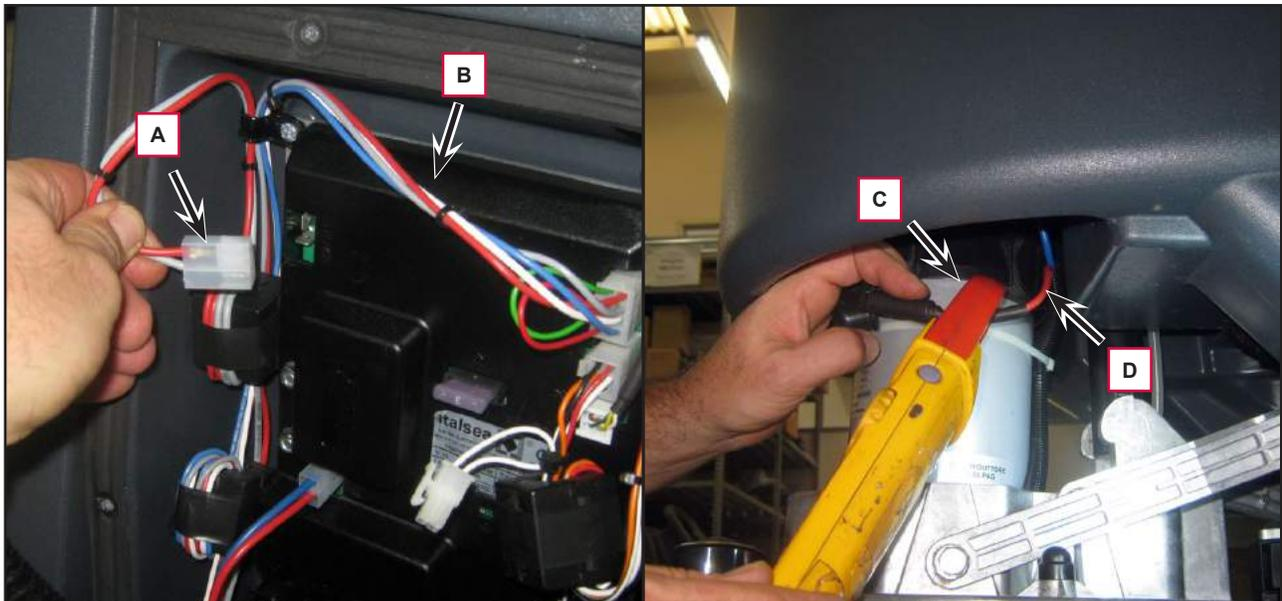

Figure 6
3. Disconnect the drive system connector (A) (Figure 6) on the function board (B) to disable machine movement.
6. Apply the amperometric clamp (C) to an electrical cable (D) of the brush motor.
9. Remove the Amp clamp (C).